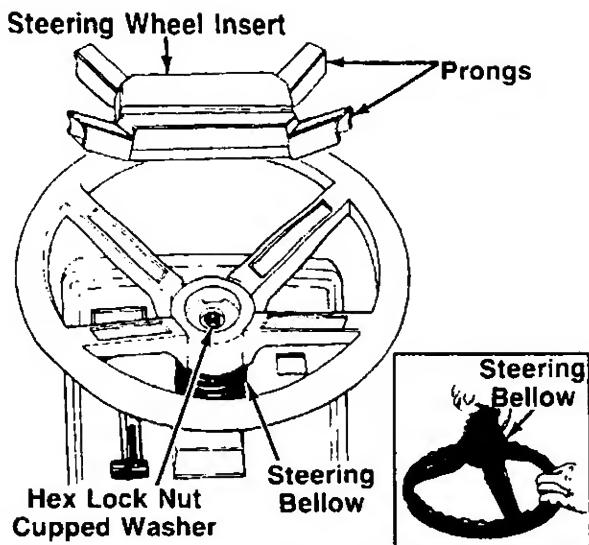

FIGURE 6.
3. Attach one end of steering bellow to the steering wheel as shown in figure 6, inset.
See figure 6.